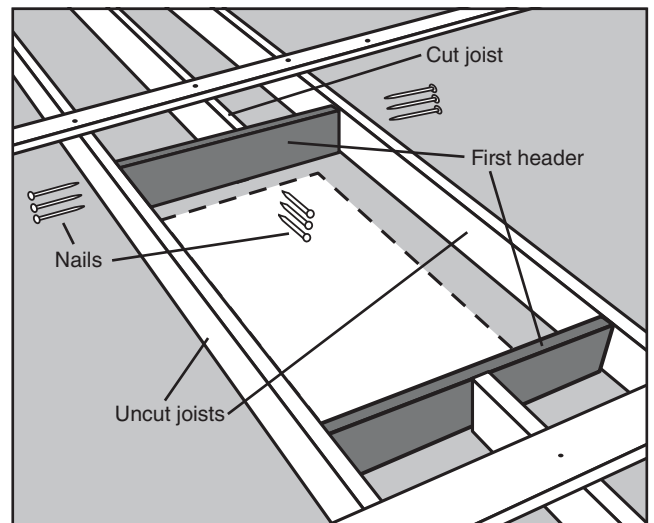

FIGURE 15
- STEP 3.** Place one of these headers against the end of the cut joist(s) (See Figure 15). It must fit snugly between the uncut joists. Hammer it into position if necessary; if it is more than 1/16" too long, trim it. If it is more than 1/16" too short, cut another piece.
- STEP 4.** Square the header to the uncut joist and nail the header to the end of the cut joist(s) with (3) 16d nails (See Figure 15).
- STEP 5.** Check header for squareness then drive (3) 16d nails through each joist into each end of the header (See Figure 15).